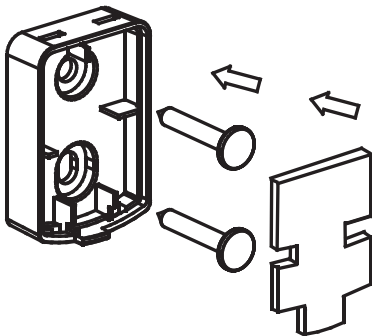

Figure 6. Remove Back Cover of Occupancy Sensor and Rubber Insulator
1. Remove the back cover of the occupancy sensor with a flat-head screwdriver. See figure 6.
3. Use the provided screws to fix the back cover of the sensor to the surface where it is to be installed. See Figure 6.
4. Place the rubber insulator back into the back cover, covering the screws and insulating the control board from touching the screws. See figure 6.